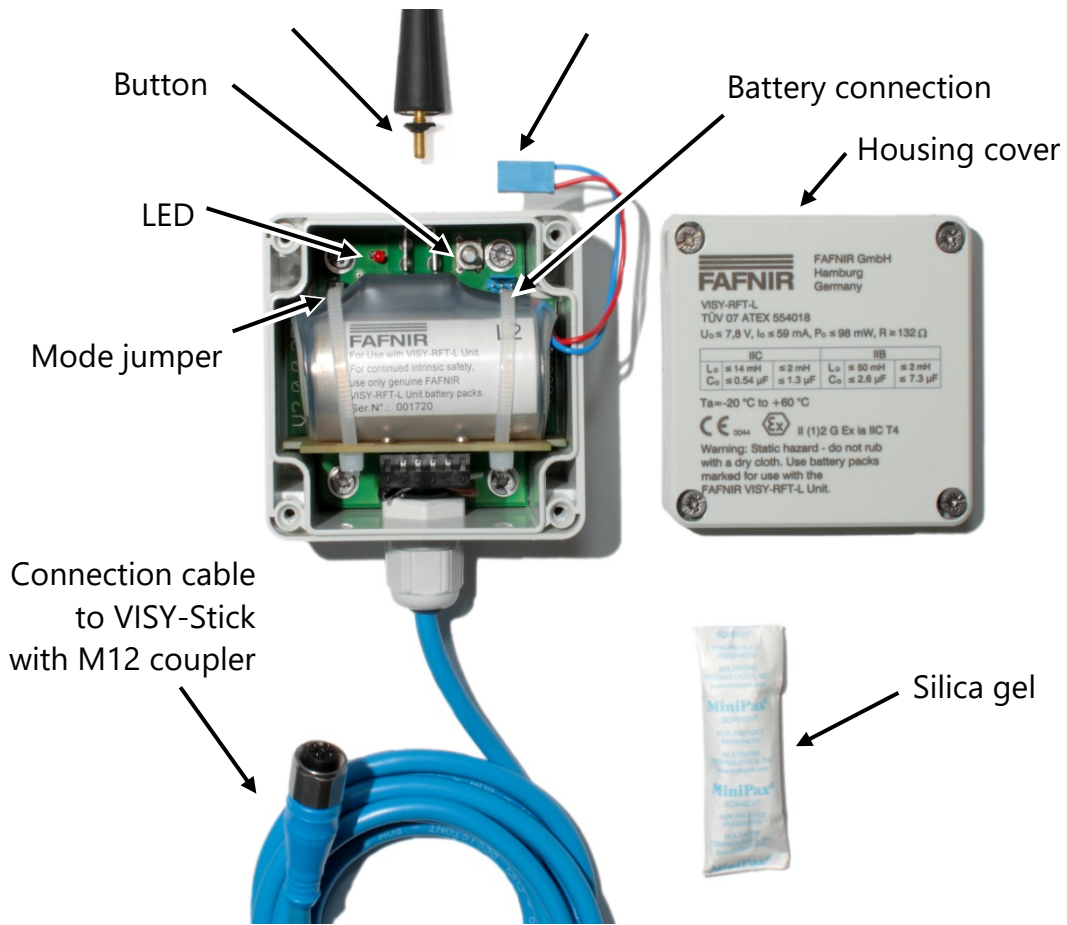

Figure 9: VISY-RFT-L transmitting module with cover removed
- Open the cover of the VISY-RFT-L transmitting module and connect the battery connector to the appropriate contacts (see Figure 9). Check that the LED lights up for three seconds as soon as the connector is connected. Place the silica gel back inside the housing and close the cover.